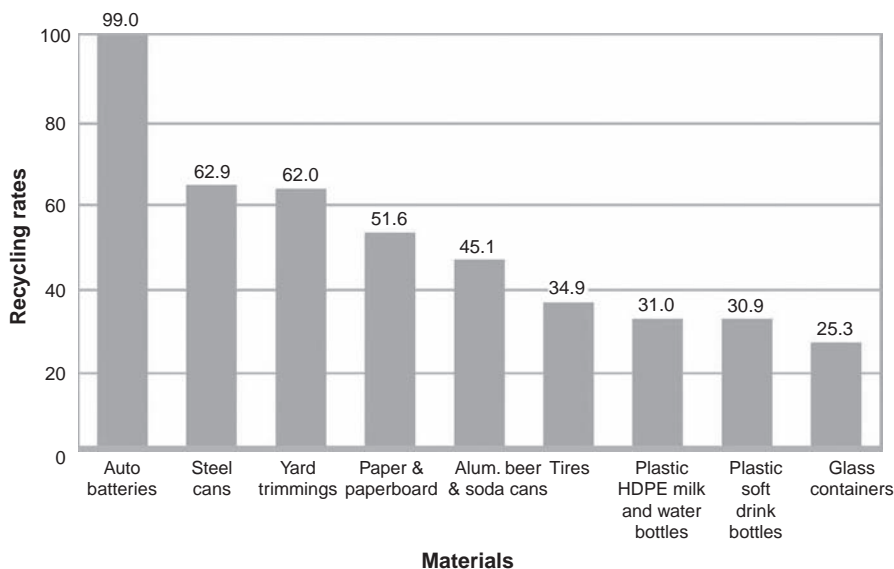

Figure 11.5
Recycling may be lower on the WMH than P² or reuse (and remanufacturing), but it is vital. Its environmental benefits include saving resources, using less energy, and producing less pollution than making a product from virgin resources.²⁰ Recycling also provides jobs. About 8500 US curbside recycling programs existed in 2005. These serve over half the population, and 84% of US cities. Recyclables could be dropped off at 12 000 other sites. Materials collected include paper, steel (tin) and aluminum cans, glass containers, plastic containers (especially #1 and #2) and waste oil (Figure 11.5). Although the US recycling rate increased sharply in the years before 2000, it has since almost leveled off and in 2007 was only 32.5%. However, some cities, San Francisco is one, has a 69% recycling rate; this city does not ask citizens to separate recyclables, but collects them in a single stream which are later sorted in a facility that combines machine and human separators. One way the city
Also see Figure 11.5 and see Wastes quick finder, A-Z topics. *US EPA*. <http://www.epa.gov/epawaste/index.htm>
- **Plastics**²⁵ The world produces 250 billion pounds (~113 billion kg) of plastic pellets a year. It is from these that all plastic products or plastic composite products are made from soft-drink bottles to medical equipment or cars. Plastic discards in US MSW were less than 1% by weight in 1960, but by 2006 they were 11.7%. See Box 11.3. Types of plastics included 14 million tons (12.7 million tonnes) as containers and packaging, over 6 million tons (5.4 million tonnes) as nondurable goods, and about 9 million tons (8.2 million tonnes) as durable goods. In the 11 US states in 2008 that charged deposits on beverage containers – plastic bottles and aluminum cans – recycling rates are higher than in states without deposits. Deposits are returned when the bottles are returned.²⁶ In states with deposits, more people save containers to get their money back; others add to their incomes by collecting plastic bottles and aluminum cans discarded by others. Some of the 11 states are working to increase the deposit charged; yet other states are introducing bills to start charging deposits. The average rate of recycling plastic bottles remains low (Figure 11.5). Only about 4% of plastics in the MSW stream are recycled; however, the figure for two specific plastics is higher. The rate for polyethylene terephthalate (PET) soft drink bottles was 31% in 2007, and recovery of HDPE milk and water bottles about 31%. Recycling the PET used to make soft drink bottles uses 47% less energy than making it from raw materials.